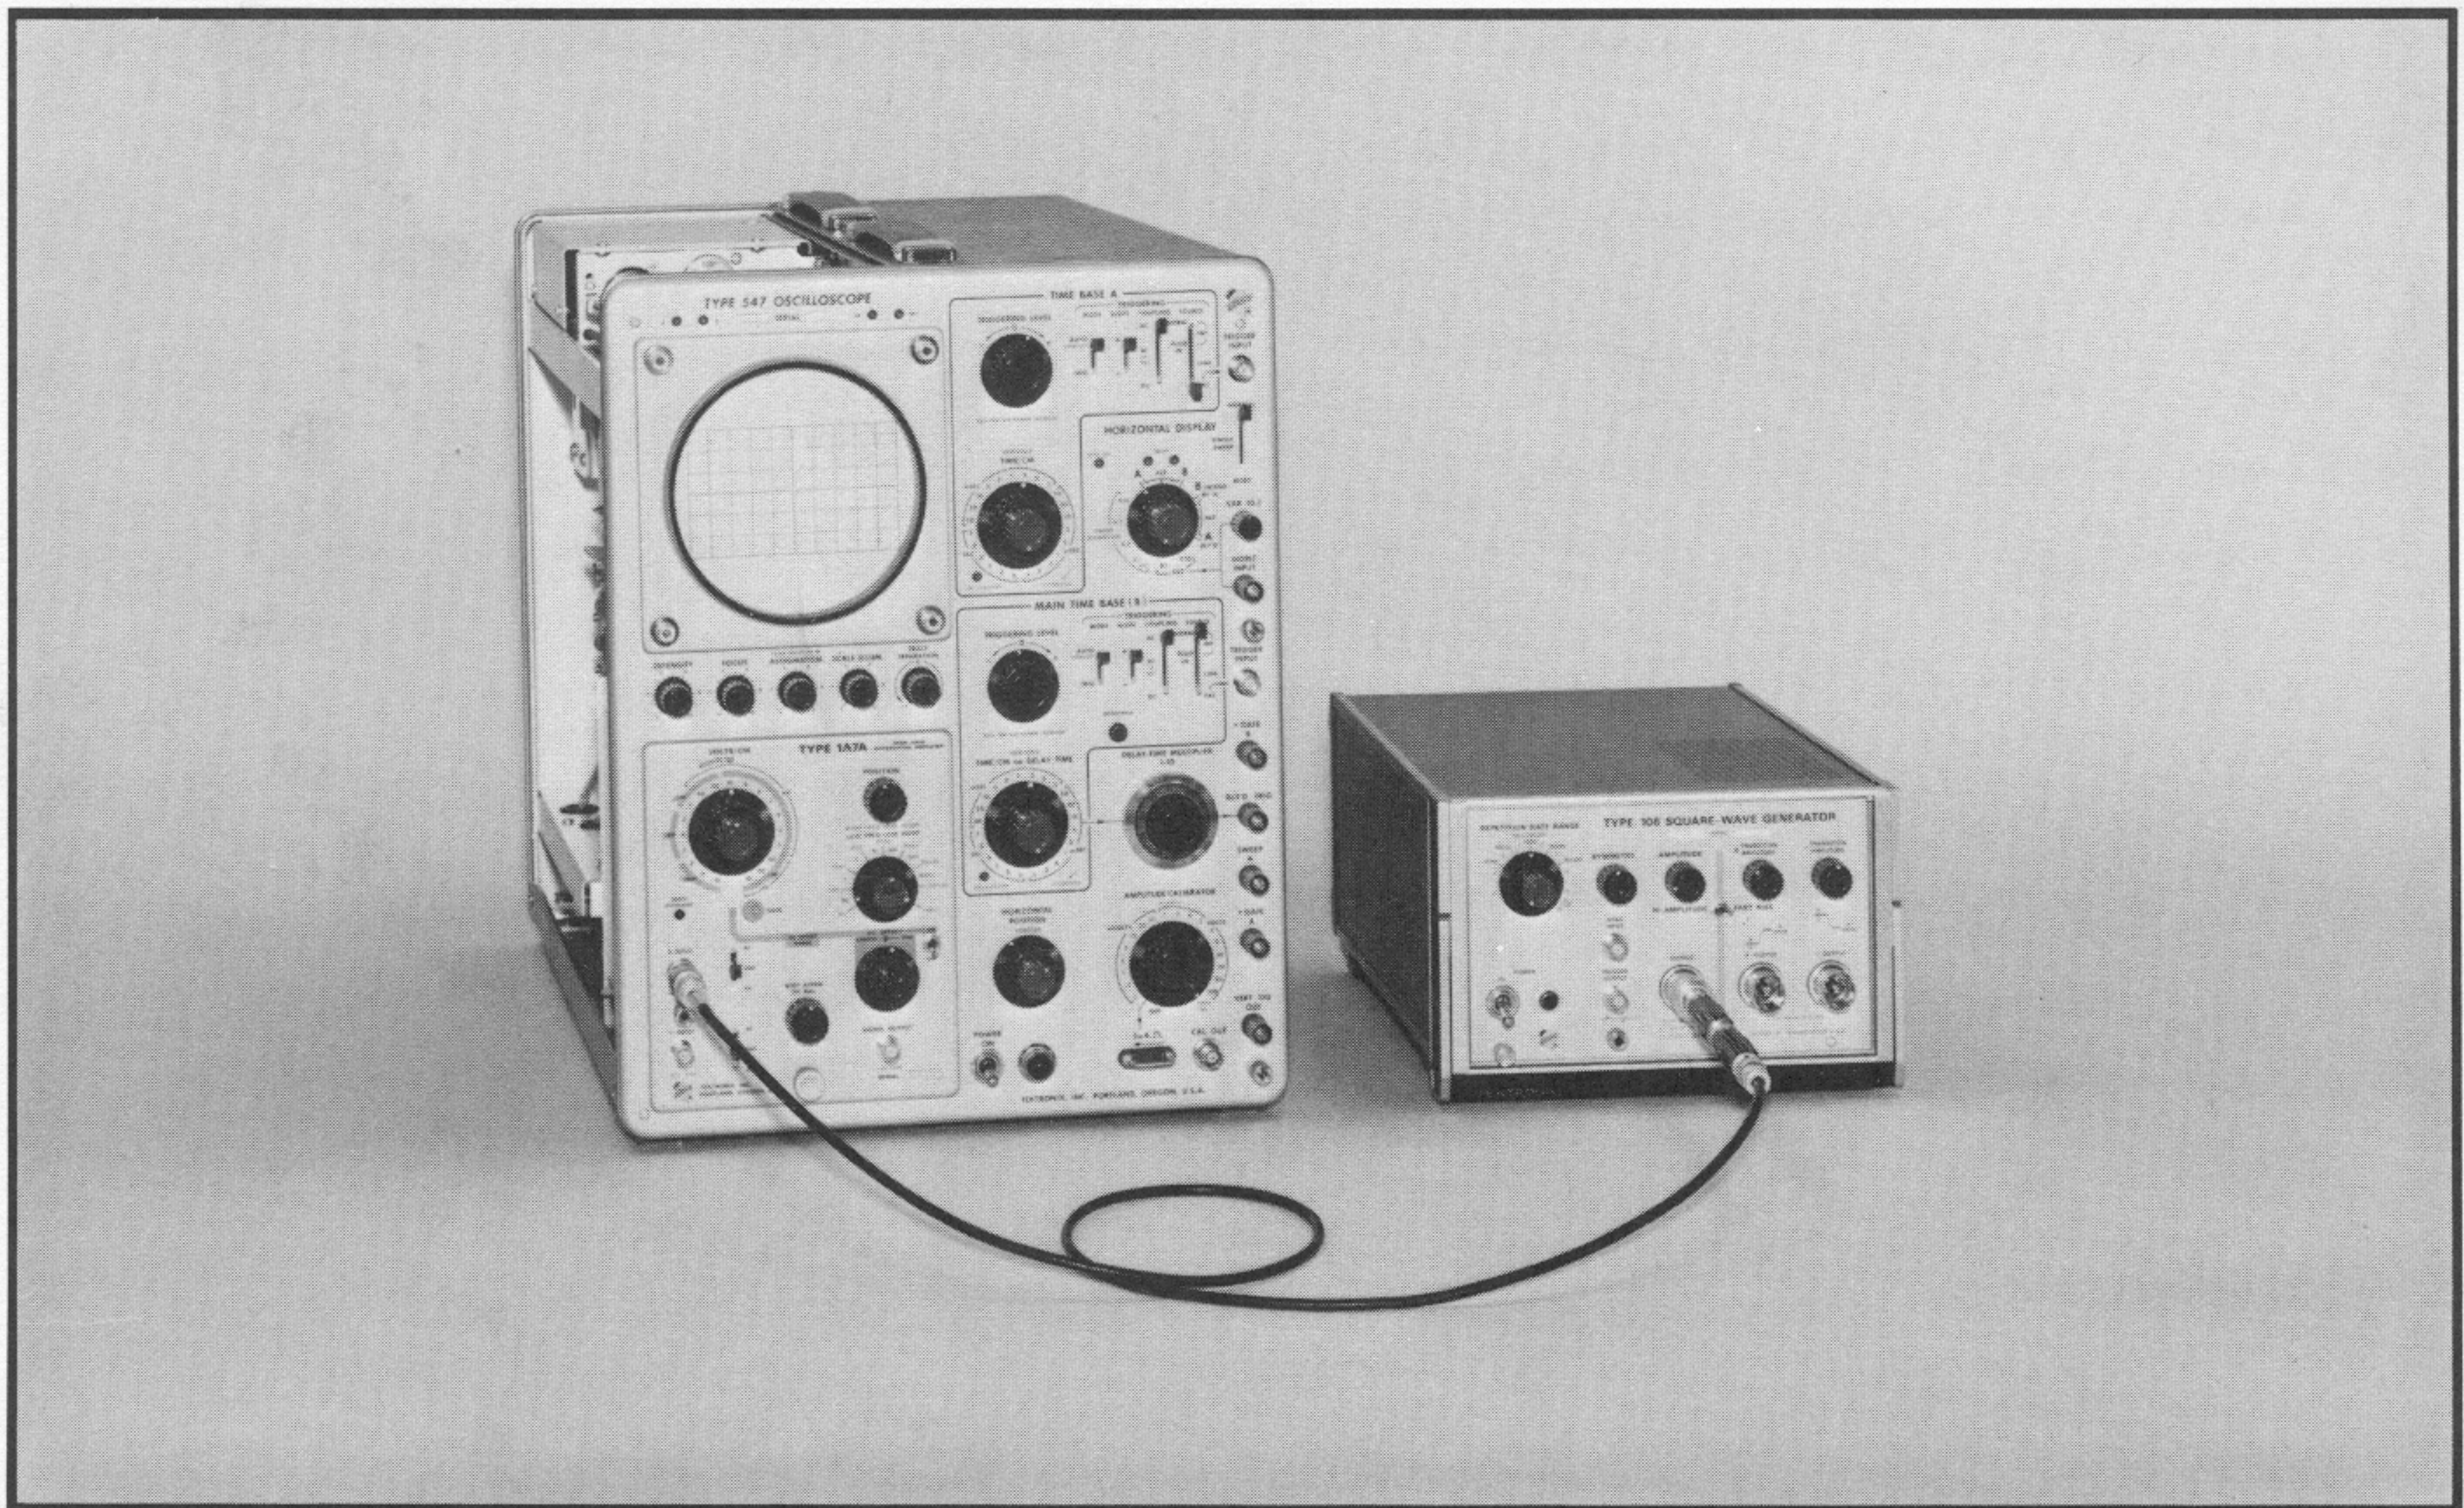

Fig. 5-25. Test equipment setup for steps 22 and 23.
- Test equipment setup is shown in Fig. 5-25.